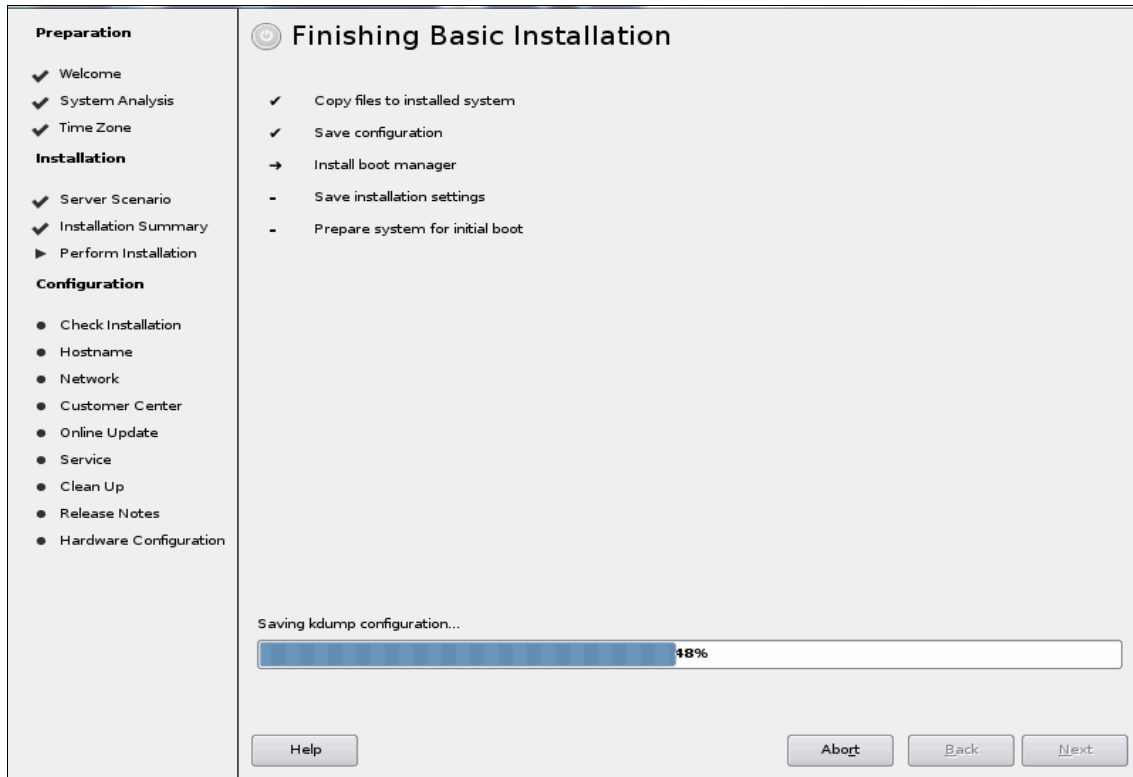

Figure 12-50 Finishing Basic Installation window
5. The final phase of the basic installation process is shown in Figure 12-50.